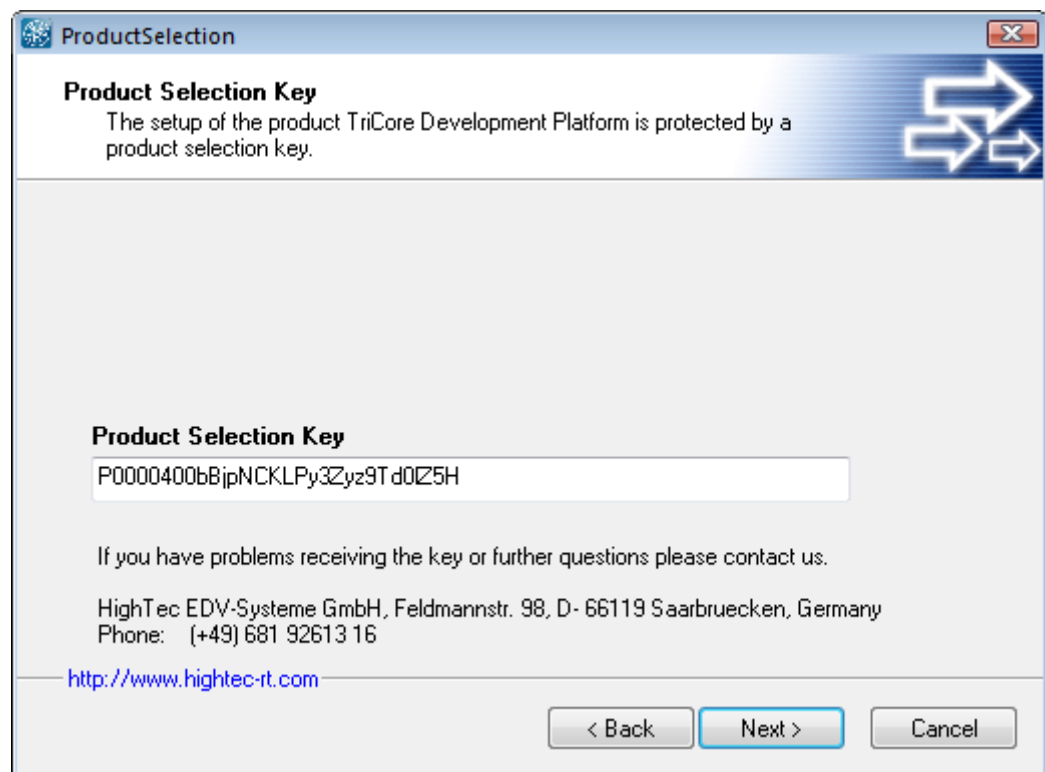

Figure 5 ProductSelection dialog
6. Click **Next**. Now the Product Selection dialog with the predefined product key appears (Figure 5). No user action is needed.